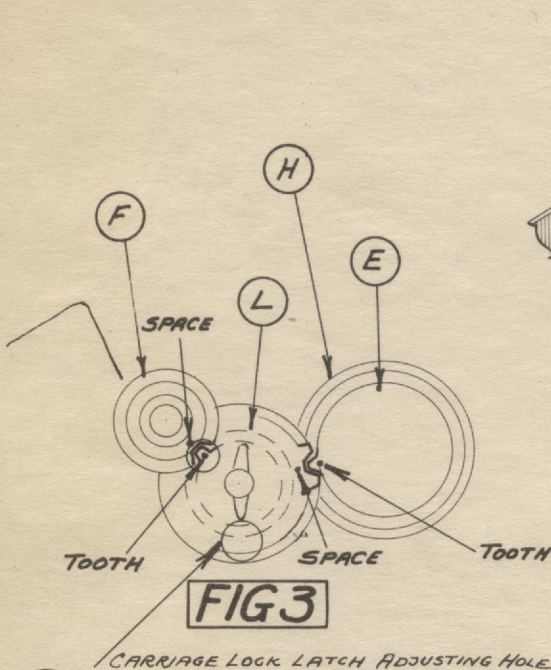

FIG. 3
- 366 UNHOOK SPRING (K) FROM POST (J) AND ALLOW UNIT TO DROP. - LOOSEN SCREW (M) SUFFICIENTLY SO THAT DOUBLE GEAR (L) CAN BE PLACED ON STUD (G) AND MESH IN TIME WITH GEARS (F) AND (E) AS SHOWN IN FIG. 3 - REPLACE RETAINING CLIPS.
- 368 TIGHTEN SCREW (M) AND (N) AND HOOK UP SPRING (K) TO PIN (J).